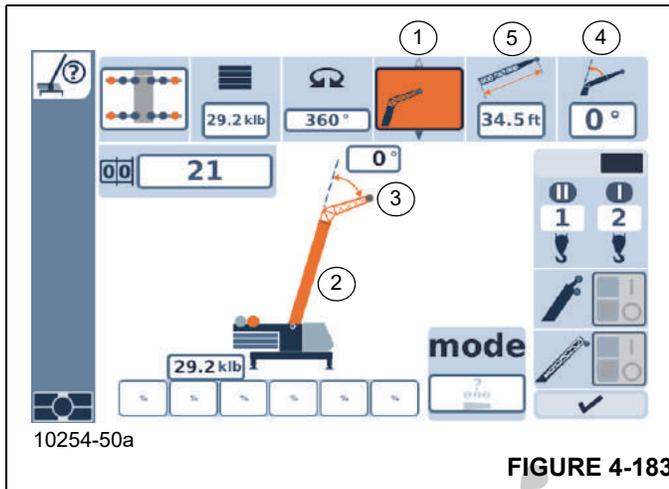

FIGURE 4-183
- Select and confirm a symbol (1) for the next component – symbol orange.
- Select and confirm the symbol (2), refer to *Accepting the Rigging Code, page 4-163*.
- Use the buttons (2) or (3) to select the required counterweight combination, e.g. 0.0 klb.
- Select and confirm the symbol (1, Figure 4-183).
- Use symbol (1, Figure 4-183) to select the rigged boom system.